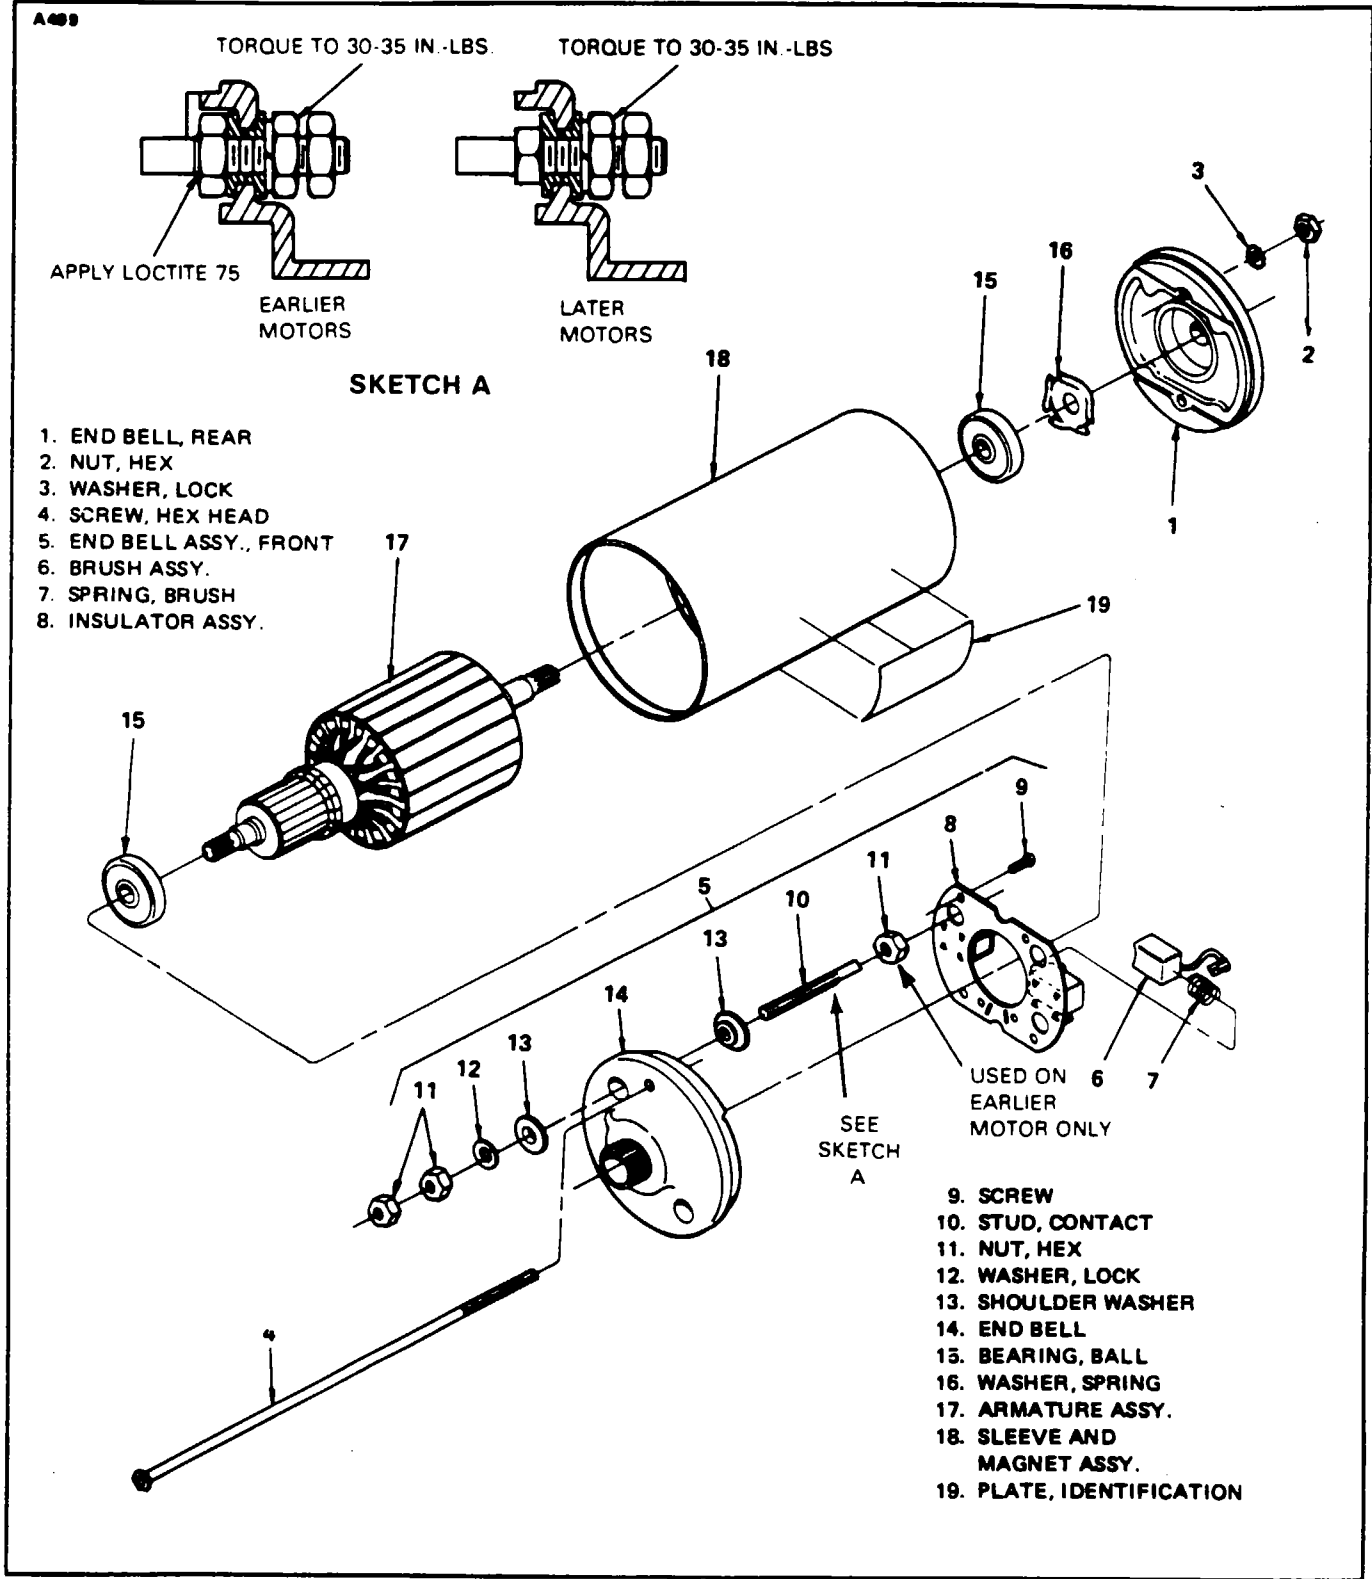

Figure 5-22. Motor Assembly. Exploded View
5-74. DISASSEMBLY OF FLAP ACTUATOR MOTOR. (Refer to Figure 5-22.)
5-76. ASSEMBLY OF FLAP ACTUATOR MOTOR. (Refer to Figure 5-22.)
- a. Assemble shoulder washers (13), contact studs (10), lockwashers (12) and nuts (11) to front end bell. Position flat on contact studs parallel to the side of the brush holder. On early models, apply Loctite 75 adhesive to inner nut (11). (See Sketch A of Figure 5-22.) Torque outer nut (11) to 30-35 inch-pounds.
- b. Install insulator assembly (8) on front end bell and secure with 4 screws (9).
- c. Install brush springs (7) and brushes (6) into brush holders. Position brush leads through slot towards center of end bell and connect to contact studs.
- d. Attach ball bearings (15) to each end of the armature shaft.